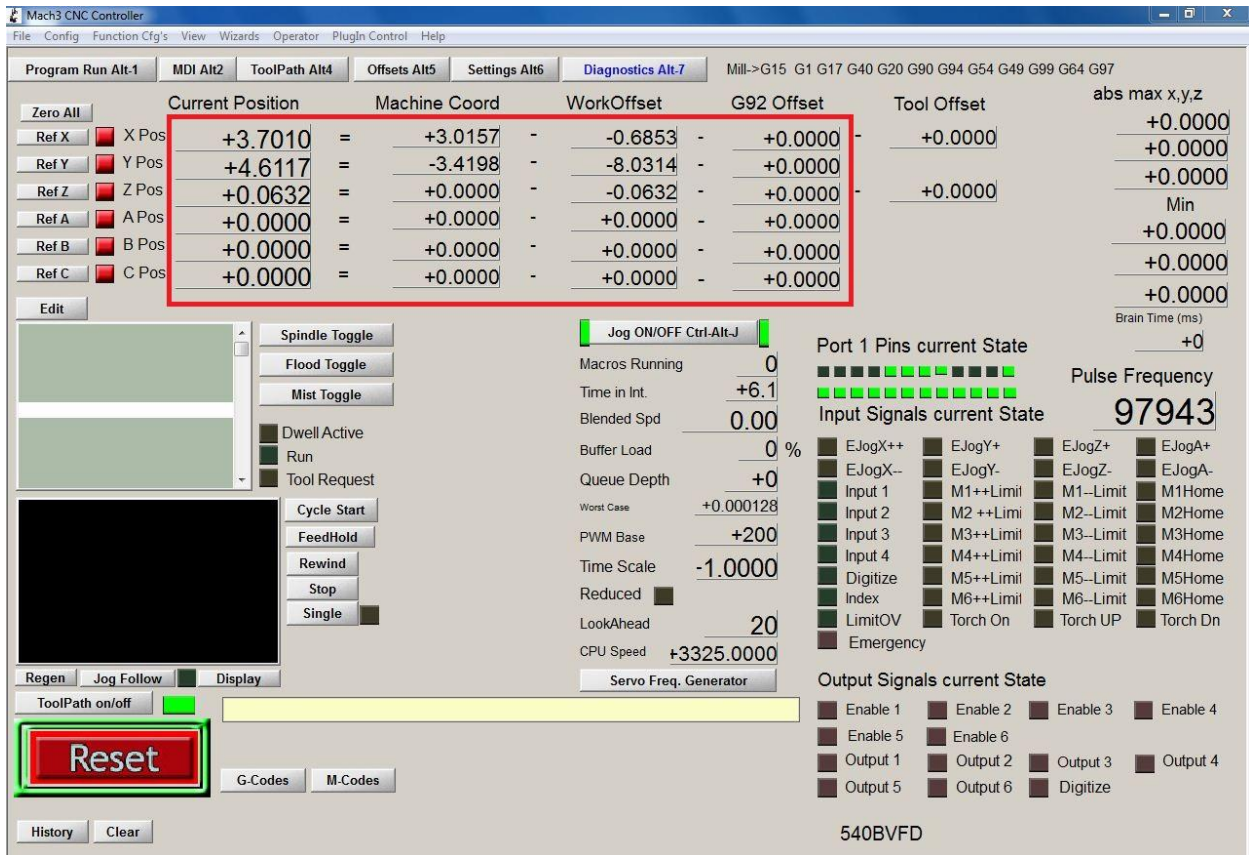

Figure 9: Mach3 Diagnostics Tab
- In the Mach3 "Diagnostics" tab, set all "Current Position", "Machine Coord", "WorkOffset" and "G92 Offset" boxes to "0". See figure 9. You have now informed Mach3 that the current position of the router is the origin position (0,0,0).